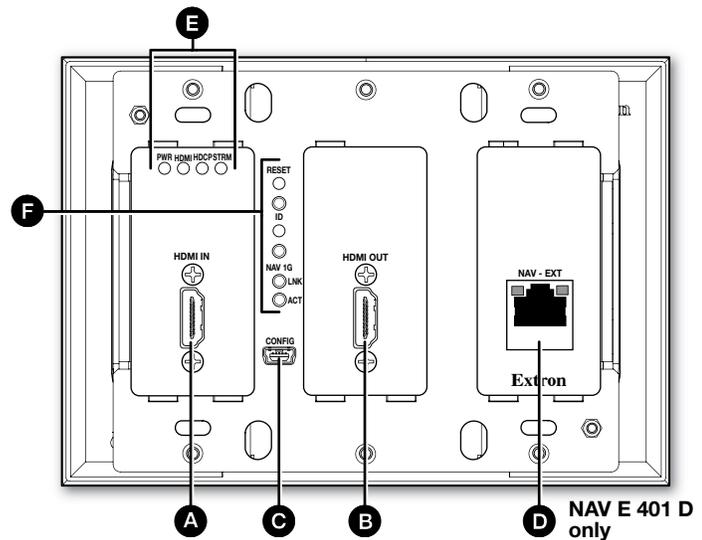
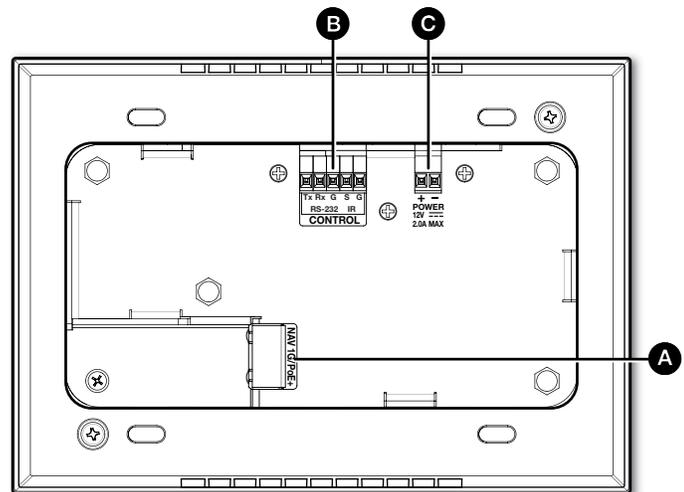

Figure 1. NAV E 401 D Front Panel Features
Figure 2. NAV E 401 D and NAV E 201 D Rear Panel Features
- Figure 1 shows a NAV E 401 D. The NAV E 201 D is similar; the only exception is lack of an Extension port (D).
Connection to the encoder and its embedded web pages can be made via either the front panel Configuration (USB) port (using IP over USB technology) (see figure 1, **C** on page 1) or the rear panel NAV 1G/PoE+ port (see figure 2, **F** on page 2).